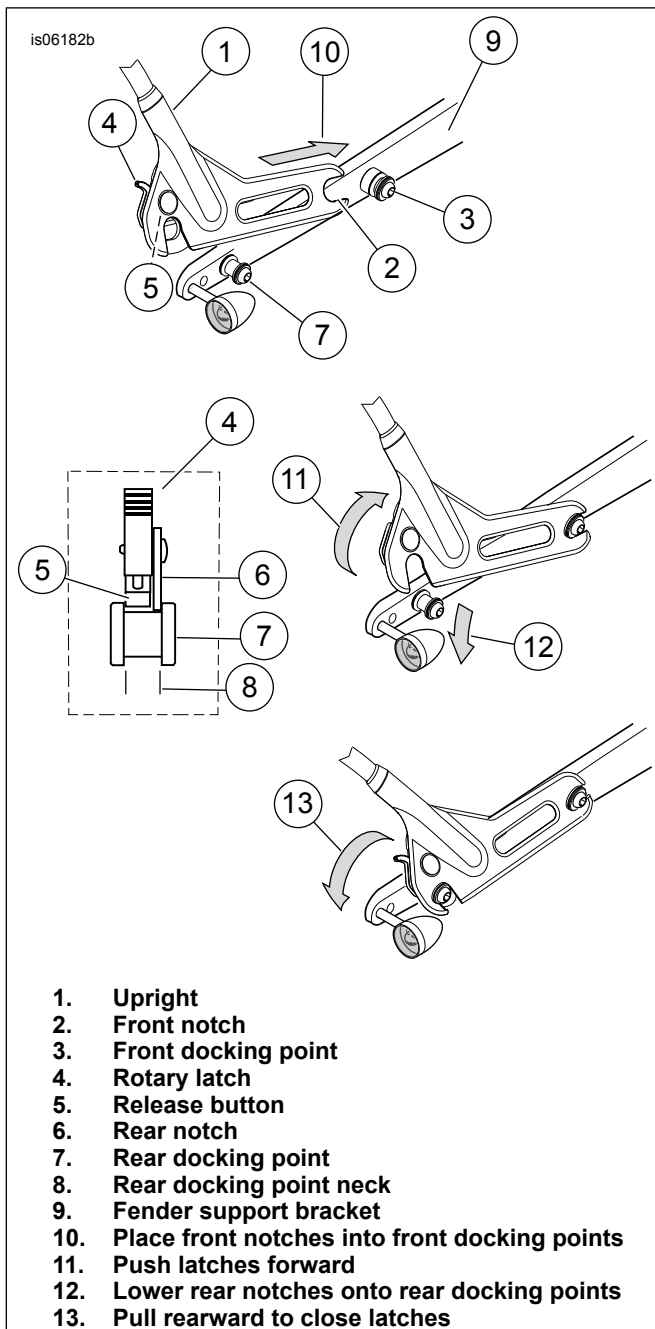

Figure 1. Detachable Upright
1. See Figure 1. Stand behind the motorcycle, and place (10) the front upright notches (2) into the front docking points (3).
3. See Figure 1. Push (11) the rotary latches (4) into their most forward position. Align the latches over the rear docking points (7), making sure the latches and rear notches (6) fit into the neck (8) of the rear docking points.